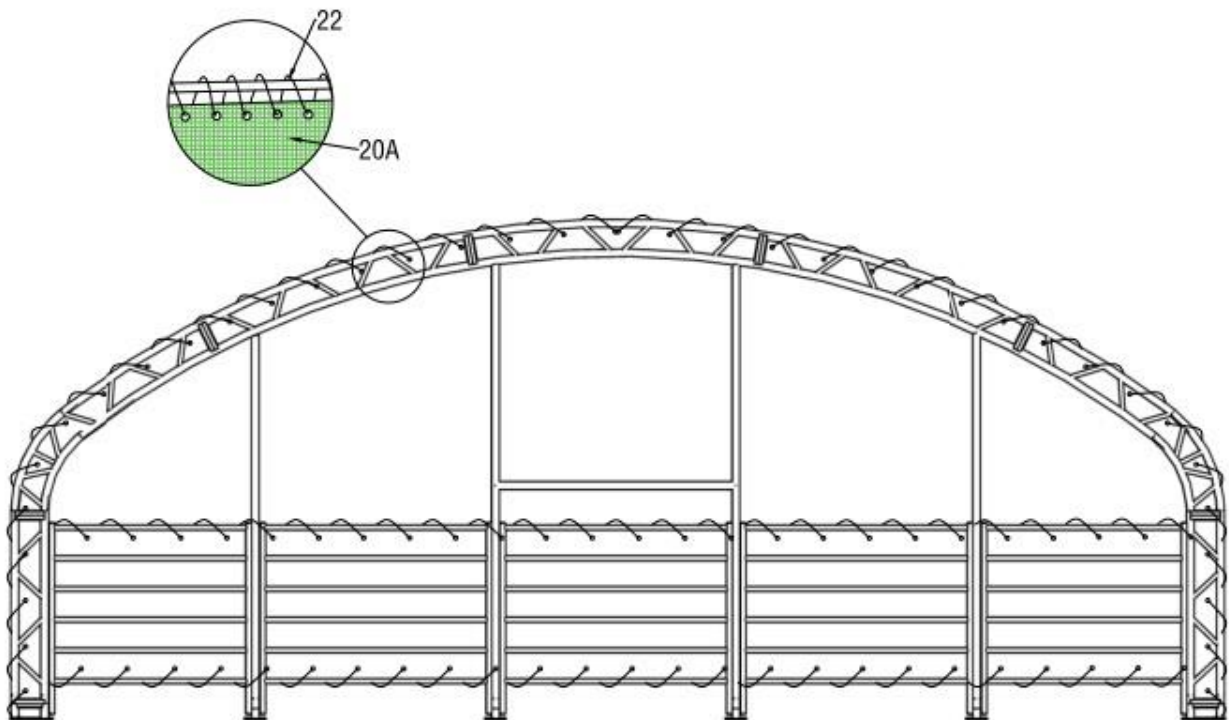

Figure 7
2. Install the Back Door Cover(No.20A) with Ropes(No.22). Reference to Figure 7.